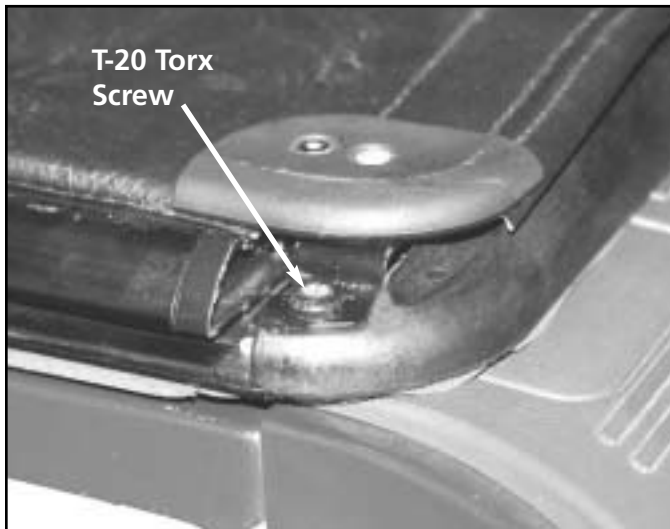

Figure S-68
2. Remove the two (2) T-20 Torx screws from the slider retainers and pull the cover back and away from the rail assembly. See figures S-68 and S-69.
22. Install the two (2) T-20 Torx into the slider retainer to the front rail and tighten. Refer back to figure S-68.